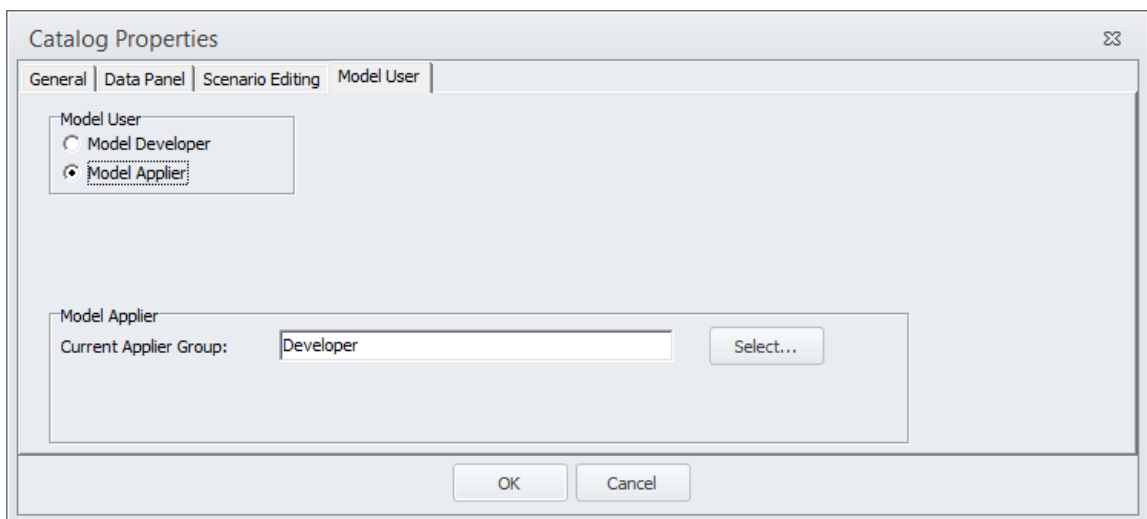

Figure 2 Correct settings for the catalog file
- 3) To set the properties of the catalog file, go to “Scenario” menu on the toolbar and select “Properties”. On the Catalog Properties window, select the “Model User” tab, and set the Model User as “Model Applier”. Under Model Applier section select "Developer" as shown in Figure 2.